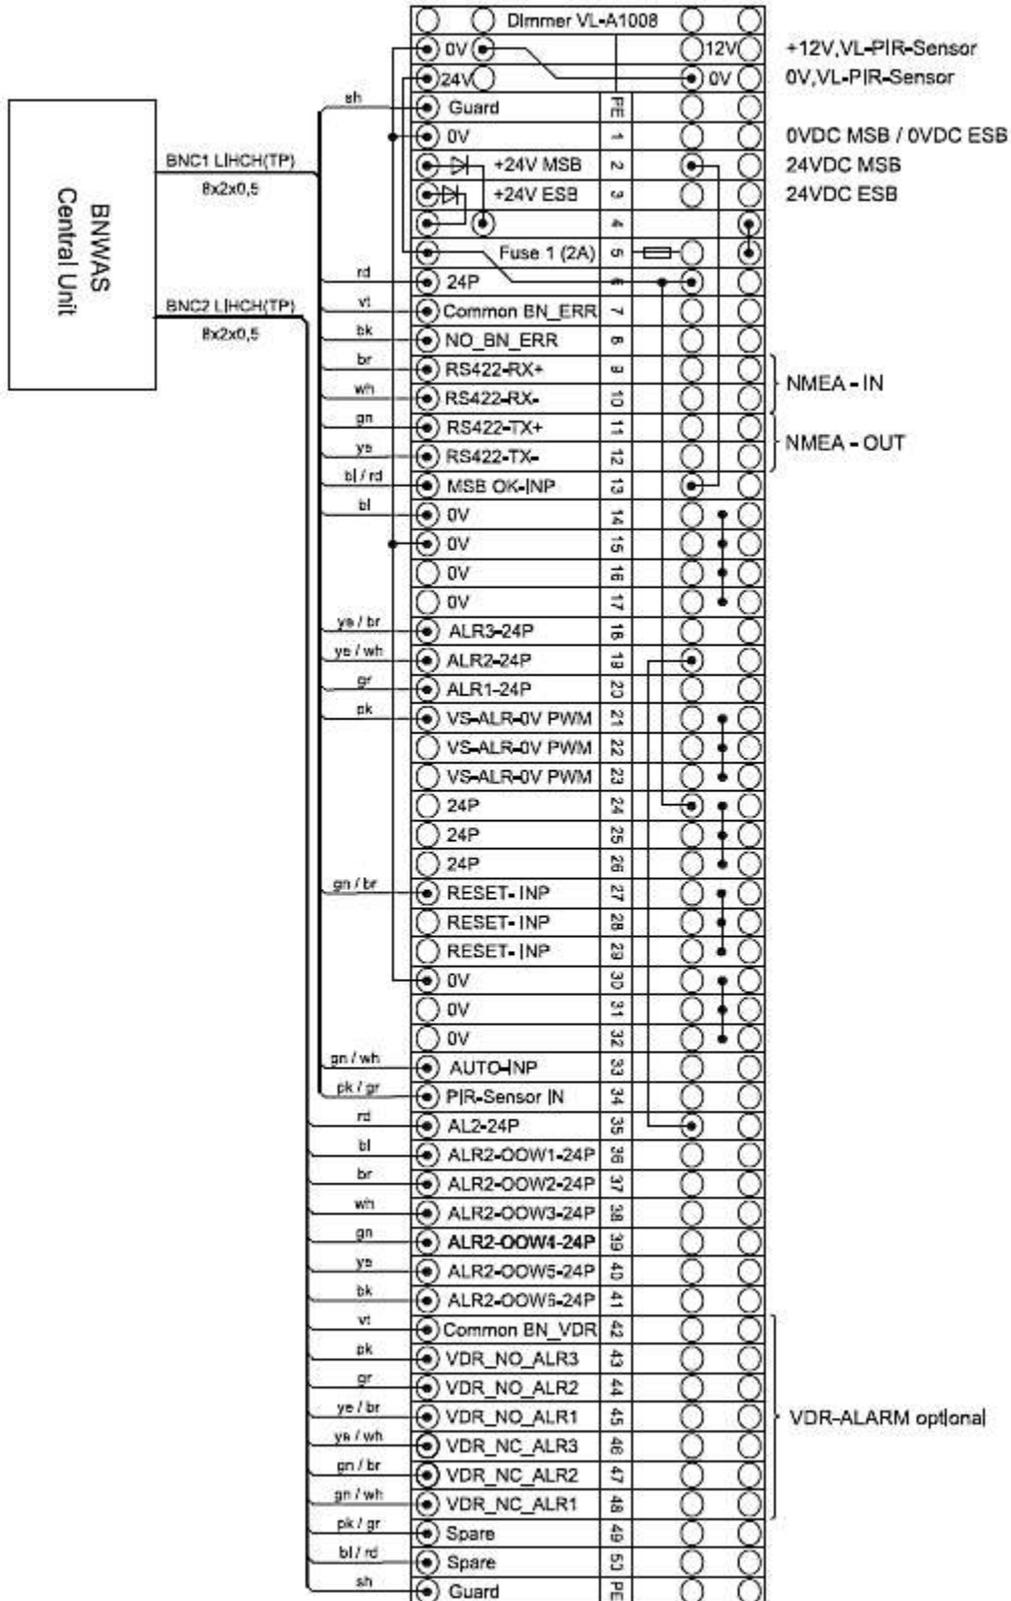

Figure 20: X1 BNWAS Terminals
The cables connections have been wired according to Figure 20 with the clamping unit so that after assembly to the mounting rail the connections are made only to the external reset unit and signal units. As the cables are halogen-free, single-shielded cables with at least 0.5 mm² wire cross-section to be use. The shield must be hanged to the PE terminal of X1 one side. As the NMEA-data lines are twisted pair cables and one sided, the shielded cables should be used.
3. Connect BNWAS to Power 24 V/ min.1A according Figure 20